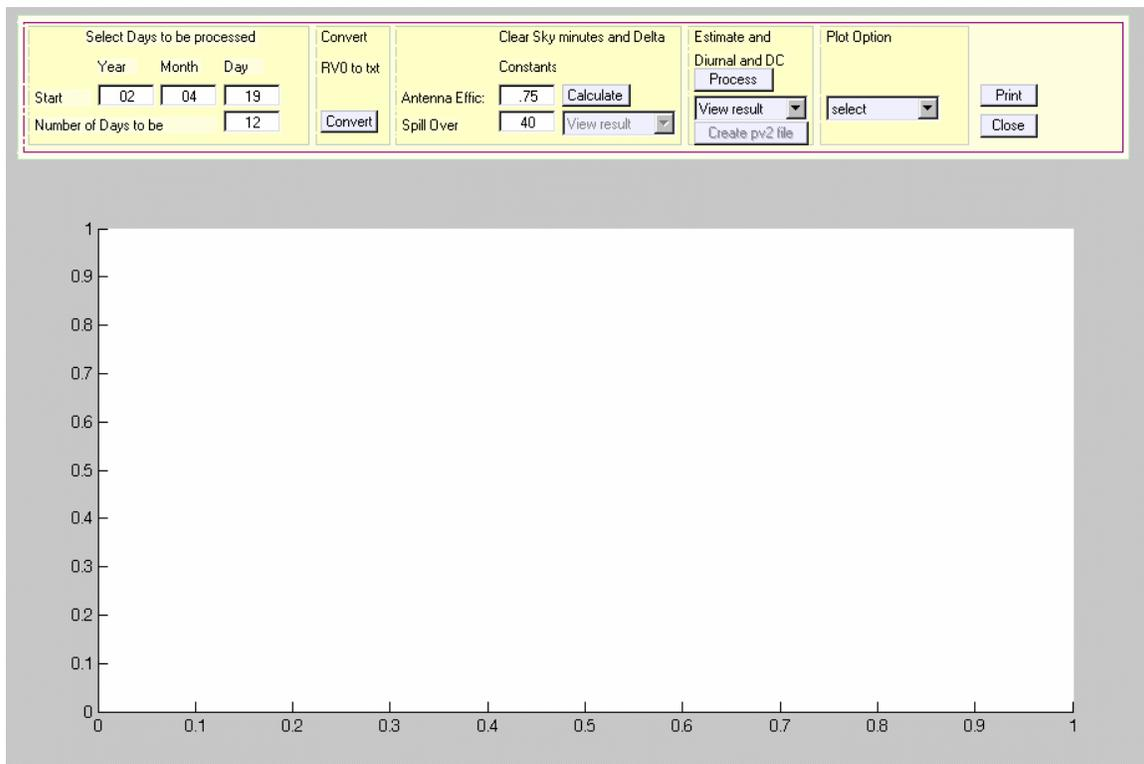

Figure 2.1 GUI Screen view of the analysis Program
The main program GUI screen view is shown in *figure 2.1*. The analysis tool is divided into several executable windows that perform various functions: select days to be processed, convert rv0 to txt file, calibration, and view data. The main program calls several functions (other Matlab programs) to perform various functions.
Step 3- Execute geo_prop.m . The GUI "GEO Propagation Analysis Tool" will appear in the window (figure 2.1).